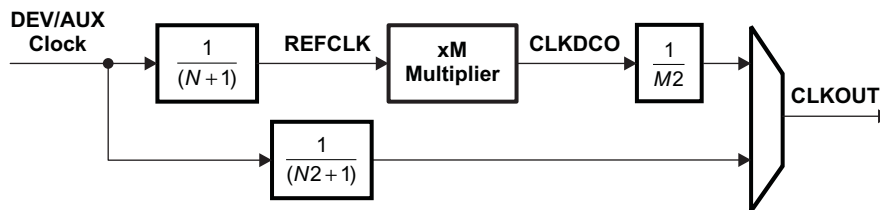
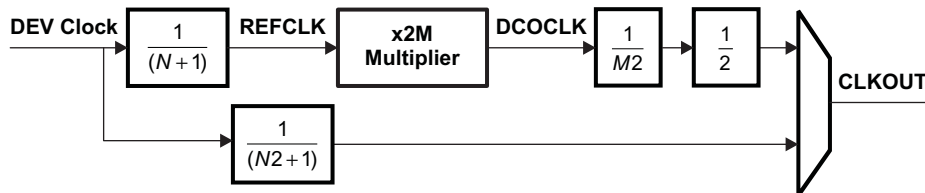

Figure 7-14. Top-Level PLL Simplified Block Diagram
Figure 7-15. PLL_ARM Simplified Block Diagram
The device contains 12 top-level PLLs, and 4 embedded PLLs (within the ARM Cortex-A8, PCIE, SATA, and CSI) that provide clocks to different parts of the system. Figure 7-14 and Figure 7-15 show simplified block diagrams of the Top-Level PLL and PLL_ARM. In addition, see the System Clocking Overview (Figure 7-4) for a high-level view of the device clock architecture including the PLL reference clock sources and connections.
(1) This parameter describes the limits on the programmable multiplier value M. The multiplication factor for the PLL_ARM is equal to 2 * M (also see Figure 7-15).
(2) The PLL Multiplier supports fractional values (up to 18-bits of fraction) except when the PLL Multiplier is < 20 OR > 2045.